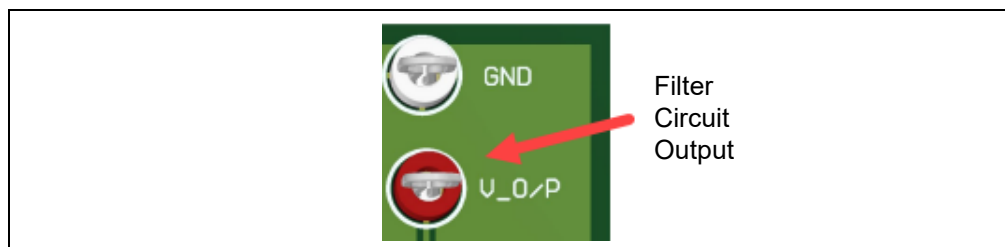

FIGURE 2-7: Filter Output.
- The filter output can be observed by using a digital multimeter/oscilloscope at V_O/P, as shown in Figure 2-7.